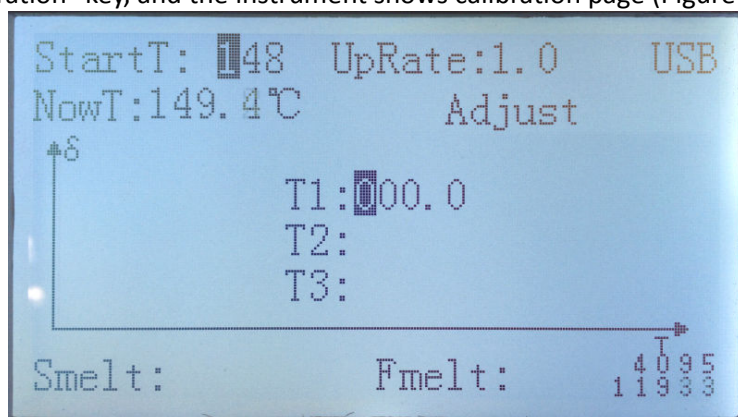

Figure 8
- 1) Press "Calibration" key, and the instrument shows calibration page (Figure 8);